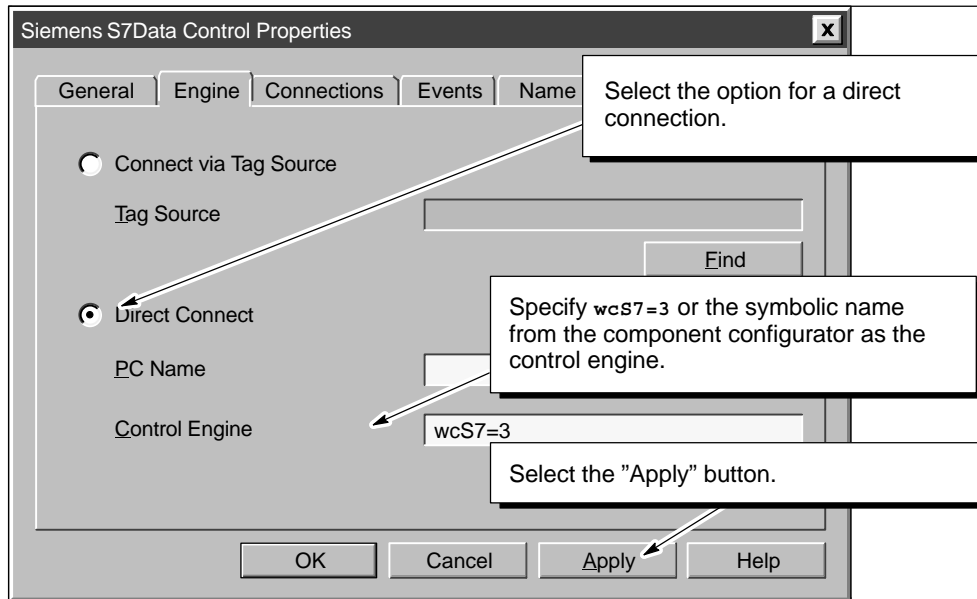

Figure 2-21 Connecting the Data Control to WinAC
1. In the "Properties" dialog box of the data control, open the "Engine" tab to display the options for the control engine (refer to Figure 2-21).